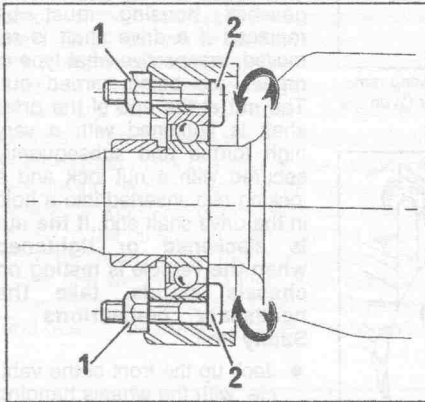

Fig. 4.4. — The two nuts (1) secure the intermediate shaft bearing. The bolt heads (2) on the inside must be rotated by a quarter of a turn to free the bolts.
- Follow the drive shaft towards the inside. There you will find the intermediate bearing. Two nuts with bolts are used to secure the assembly in position. First slacken the two nuts (1) at the top and bottom (Fig. 4.4) and then turn the bolt heads (2) by a quarter of a turn in clockwise direction. Remove the drive shaft from the wheel hub as described above and then the other drive shaft half
- Place the offset wheel bolt heads (2) against the bearing outer track and tighten the two nuts (1) in Fig. 4.4 to 1.0 kgm (7.2 ft.lb.).